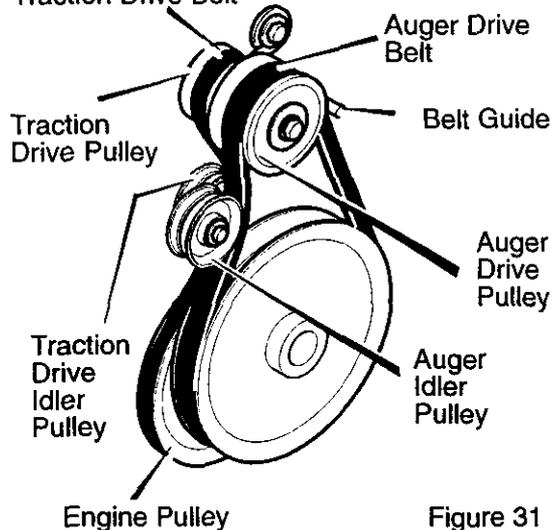

Figure 31
4. Pull the traction drive idler pulley away from the traction drive belt. See Figure 31.